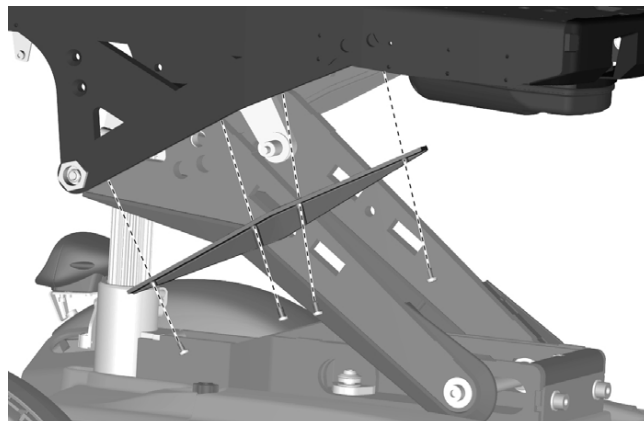

Figure 102. The pinch guard is assembled with four screws.
3. Remove the four screws holding the pinch guard to the upper arm. See fig. 102.